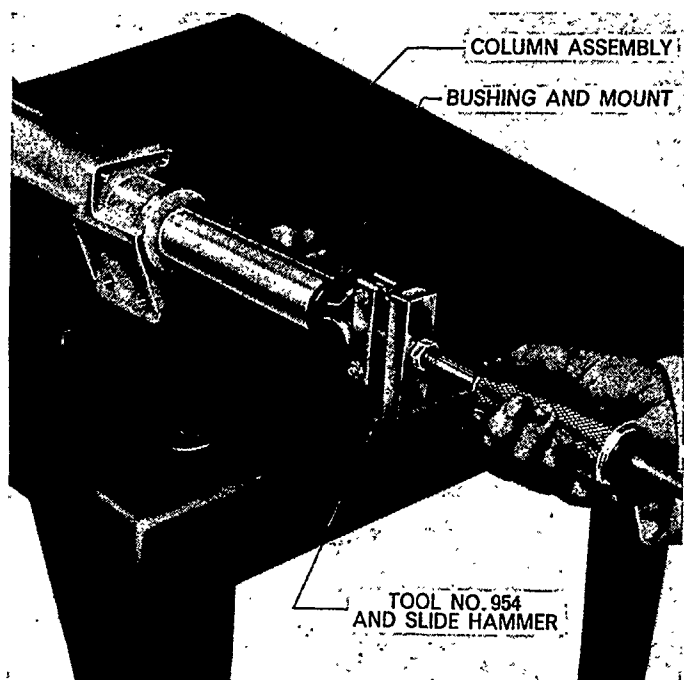

Figure 5
7. Examine housing upper bushing for wear or scoring and remove complete with rubber mount using 954 and slide hammer, Figure 5, and insert new bushing and rubber assembly.